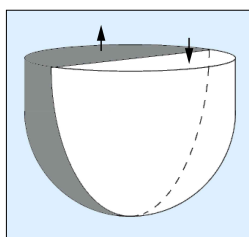

Figure 8: Coupling of the membrane and the internal modes of a kettle drum.
► vibrations of the membrane. Therefore, no matter how hard or softly you hit the membrane, the frequencies of its modes remain tightly locked to those permitted by the air in the cavity. Figure 8 depicts the 0,1 mode of a kettle drum, showing how the vibration of the air is coupled to the vibration of the membrane.